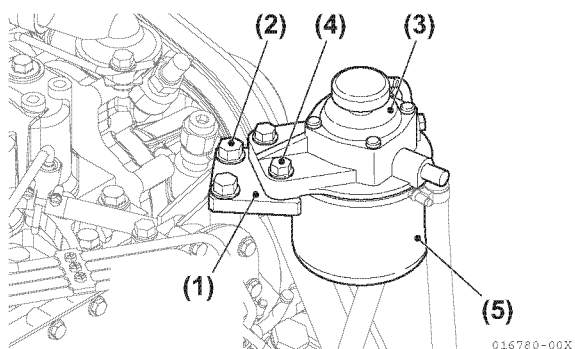

Figure 5-198
68. Install the fuel filter bracket on the intake manifold (Figure 5-198).
69. Install the fuel filter (Figure 5-198).